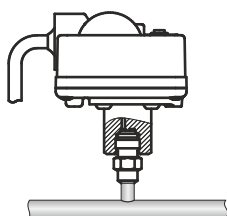
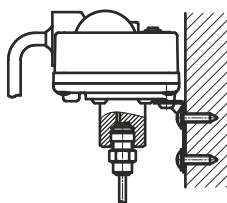

Fig. 2a.
Fig. 2b.
- Install the regulator on the liquid line. Installation on the discharge line "compressor-condenser" is not permitted. Installation should be carried out strictly in a vertical position (with the adjusting screw upwards); installation in other spatial positions is not allowed. There are 2 installation options: A. Directly on the pipe to the Schrader valve (Fig. 2a); B. On the panel using a mounting bracket (Fig. 2b) and subsequent installation of the connecting tube to the regulator fitting. Overall and connection dimensions are shown in Fig. 6.